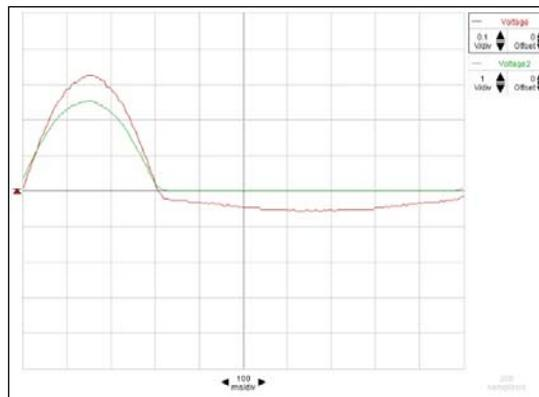

Fig. 12: example of oscilloscope image in step 15.
15. Adjust the sampling rate in Data Studio to 200 Hz. Use a scope to verify that both voltage signals are being read correctly. The two signals, as seen in Fig. 12, show the voltage across the $22\ \text{k}\Omega$ resistor (red, V_1) and the voltage across the $1\ \text{k}\Omega$ load resistor (green, V_2). The red voltage signal essentially represents the current, $I = V/R$, flowing through the base-emitter part of the transistor functioning as a diode, although not a perfect diode because the base is so thin. The